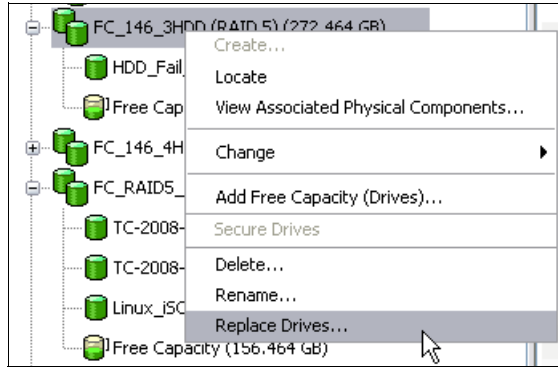

Figure 7-68 Replace Drives option in Storage Manager logical view
- ▶ The alternate solution is to make another disk a permanent replacement for the failed drive. When we right-click the icon for the array with the failed disk in the logical view, we are given the Replace Drives option, as shown in Figure 7-68. This menu option is normally grayed out when all drives in the array are optimal.